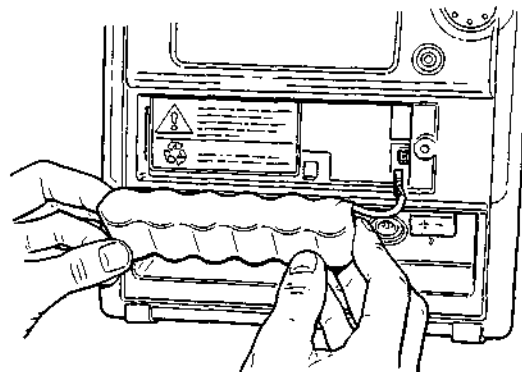

Figure 24. Battery pack
5. Fit and connect the new battery pack (Fig 24) with the black cable towards the touch screen.